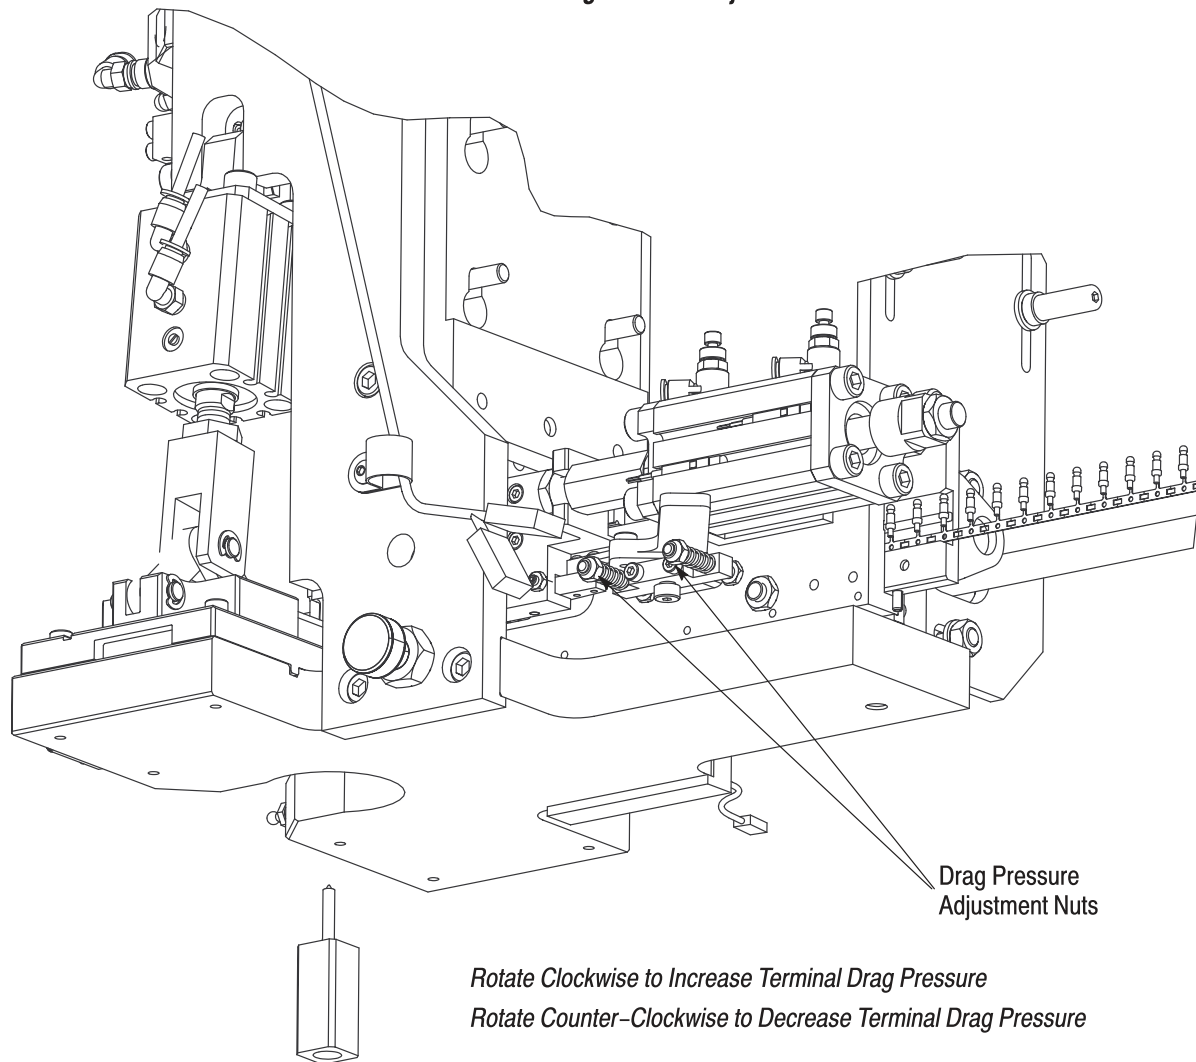

Figure 21
5.14. Terminal Drag Pressure Adjustment (Refer to Figure 21)